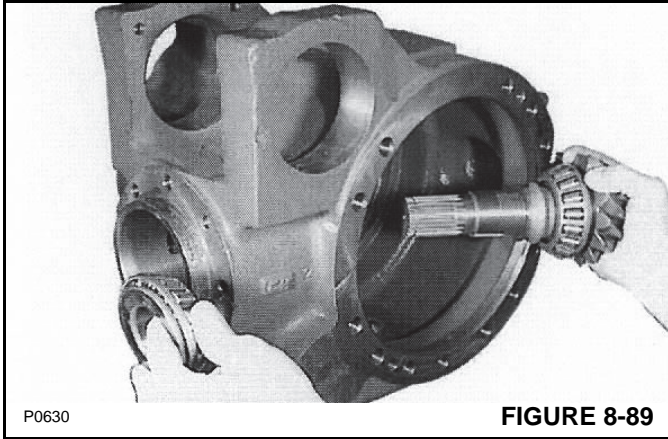

FIGURE 8-89
- Insert the bevel pinion assembly into the center housing and the second bearing cone onto the pinion end (Figure 8-89).